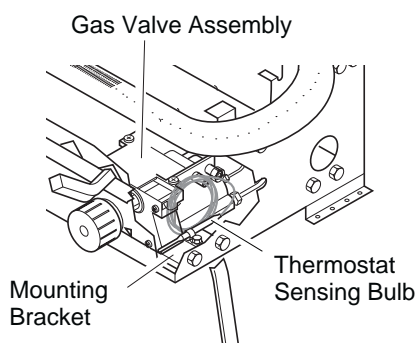

Figure 27 - Location of Gas Valve Assembly and Thermostat Sensing Bulb
1. Remove logs. Locate the gas valve assembly and thermostat sensing bulb (see Figure 27).